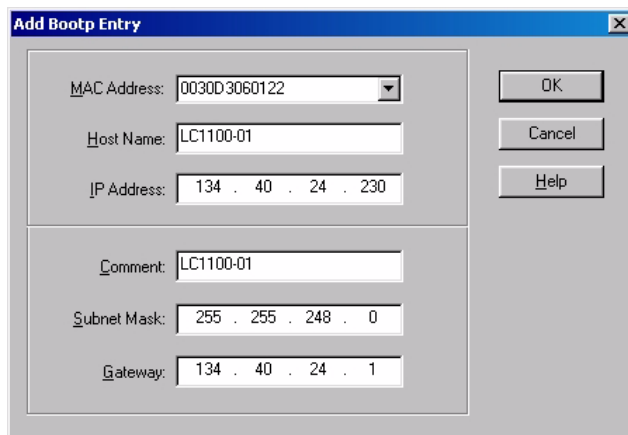

Figure 15 Add Bootp Entry - Enter your parameter
- 5 Select *Configure* -> *Add Entry* to configure the Bootp Manager (Figure 15). The drop down box "MAC address" lists all MAC addresses found. Select your MAC address. If no hardware address is found, select *Cancel* and repeat step 3 and step 4.